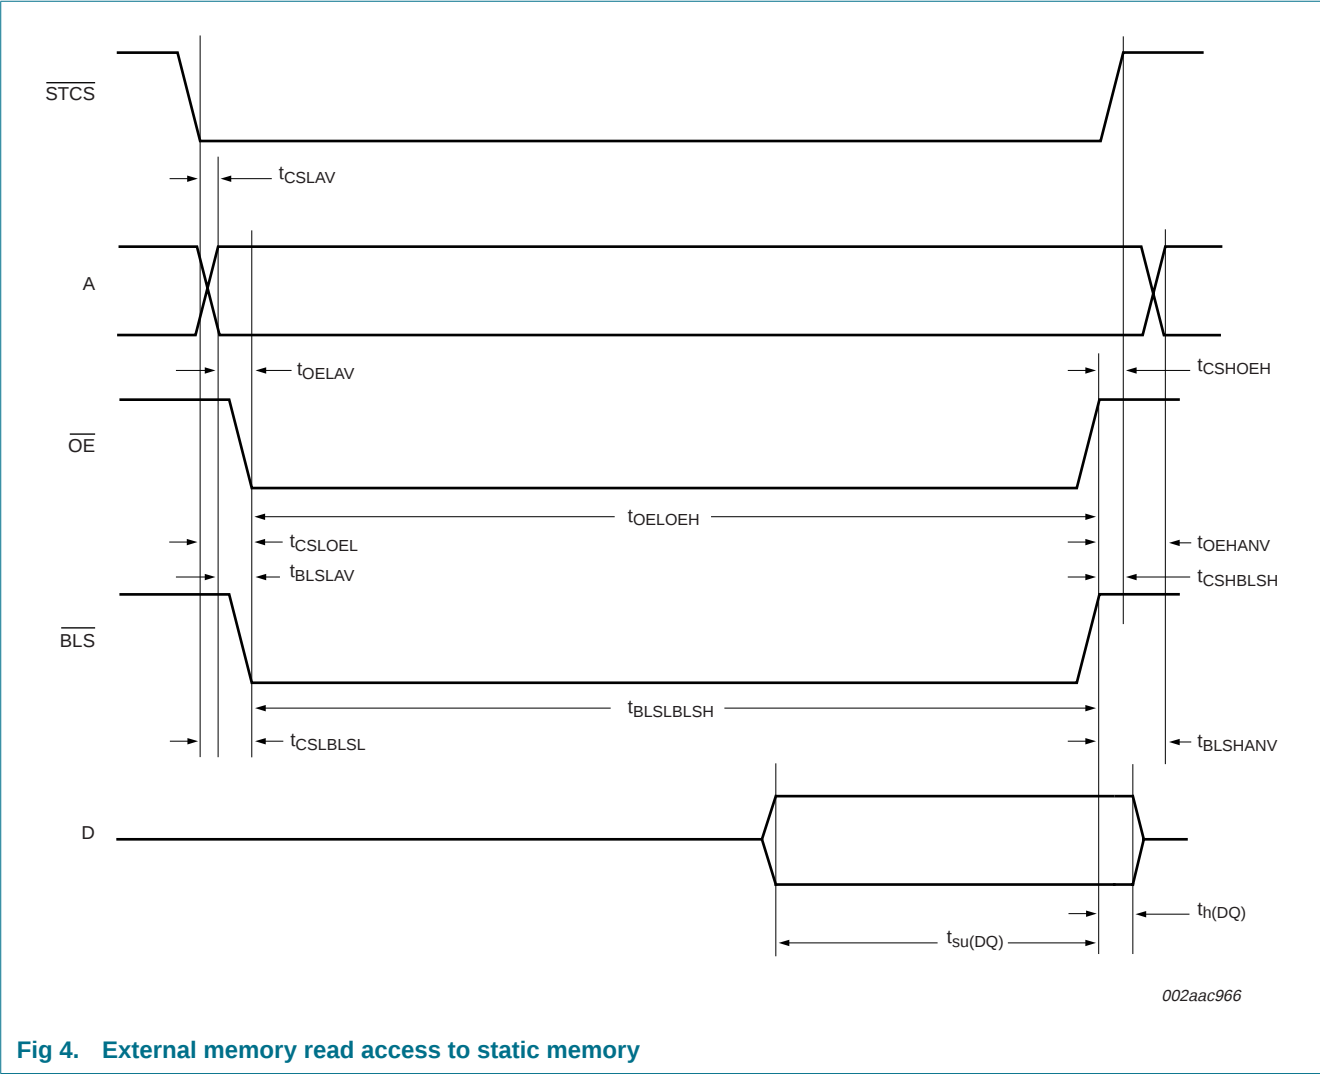

Fig 4. External memory read access to static memory
• Table 1 “Ordering information”; added /01 and /D1 parts. • Table 2 “Ordering options”; added JTAG interface column to show the difference between /01 and /D1 devices. • Table 5; ESD specification added. • Table 6; DC-to-DC converter and power consumption characteristics added. • Table 8, Table 9, Table 10; external memory interface dynamic characteristics added. • Figure 1, changed ‘ARM7TDMI-S’ to ‘ARM7TDMI’. • Figure 4, Figure 5, Figure 6, Figure 7; external memory interface timing diagrams added.